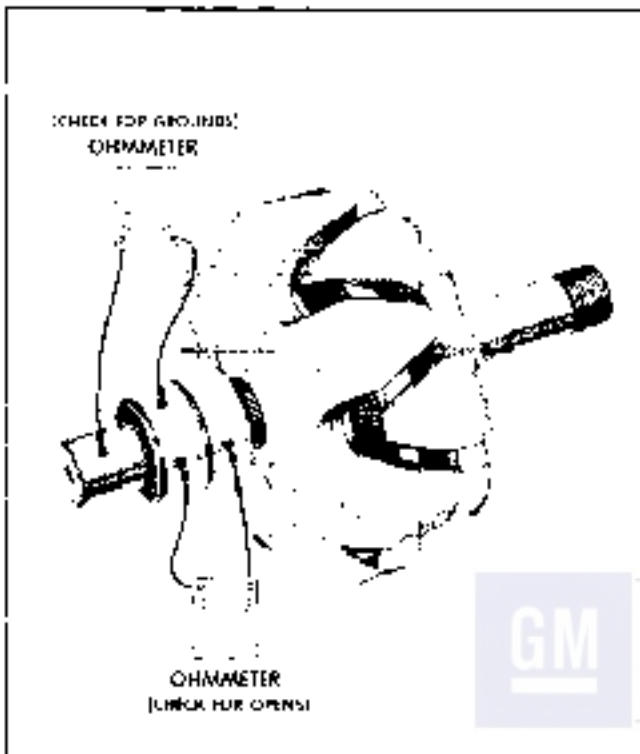

Fig. 6E-11 Checking Rotor
1. To check for grounds, connect a 110-volt test lamp or ohmmeter from either slip ring to rotor shaft, or to rotor poles. If lamp lights or ohmmeter reading is low, the field winding is grounded (Fig. 6E-11).
2. To check for opens, connect test lamp or ohmmeter to each slip ring. If lamp fails to light or if the ohmmeter reading is high (infinity), winding is open (Fig. 6E-11).